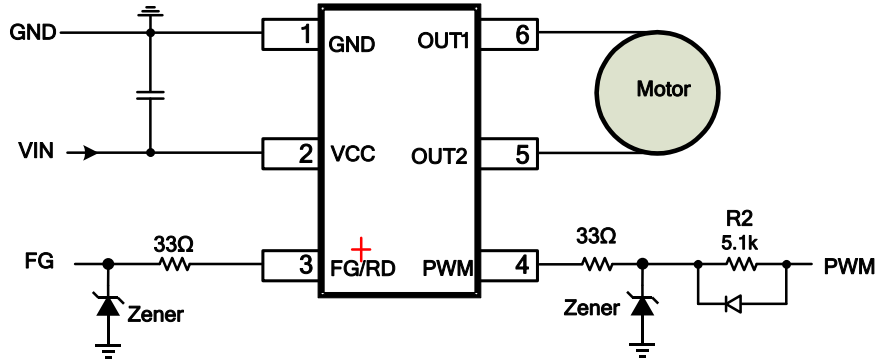

Figure 7 ESD Solution with Zener Diode and Resistor
2. In additional, if customers also can use a zener diode with a resistor can be used as the following figure 7. A 15V zener diode and a 0603 resistor are recommended for each terminal.